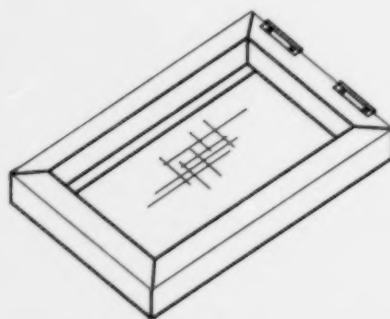

Figure 12 - Stretched Screen Setup
1. Tape the inside corners of the screen, where the frame and screen meet, with 2 inch masking tape. Start at the top of the frame and continue down onto the screen. This helps keep ink out of the corners making cleanup easier. (See Figure 12)